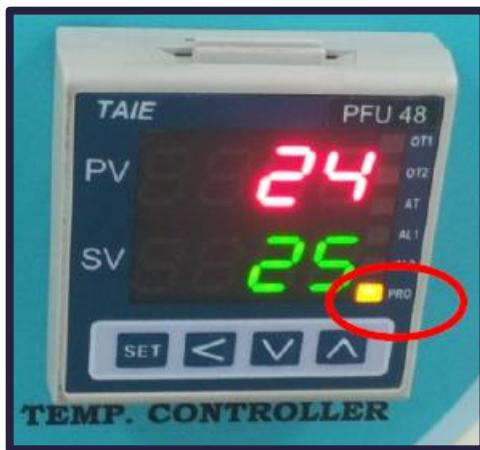

Figure. 10
8. Start the program by clicking on up arrow "^"; ensure this by confirming that "PRO"LED is flashing. Stop the running program at any instant by clicking on down arrow "v", if required. Ensure program is stopped by confirming the "PRO" LED is glowing, but NOT flashing (Figure. 10).